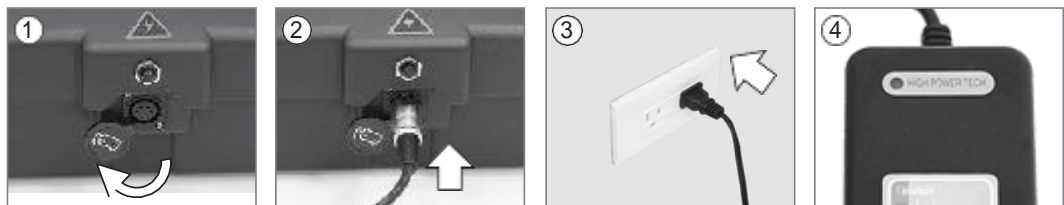

Figure 32
•Battery Box Charge Port (Figure 32)